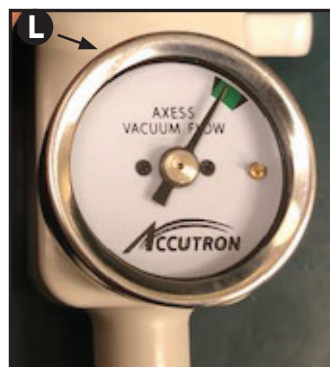

Figure 4
6. **RFS™ Scavenging Circuits:** Adjust the flow on the RFS Vacuum Controller using knob  so that the needle is in the green zone of the gauge  per Figure 4.
**In-line:** Adjust the flow on the In-line controller using knob  until the needle is in the green zone per Figure 4.